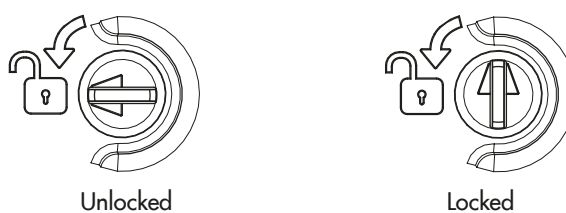

Fig. 6: Quarter-turn fastener
The front housing cover of the actuator is secured by a quarter-turn fastener (see Fig. 6).
- ⇒ Make sure that the quarter-turn fastener is turned to the unlocked position (see Fig. 6) and the handwheel (actuators without fail-safe action) engages in the actuating shaft.